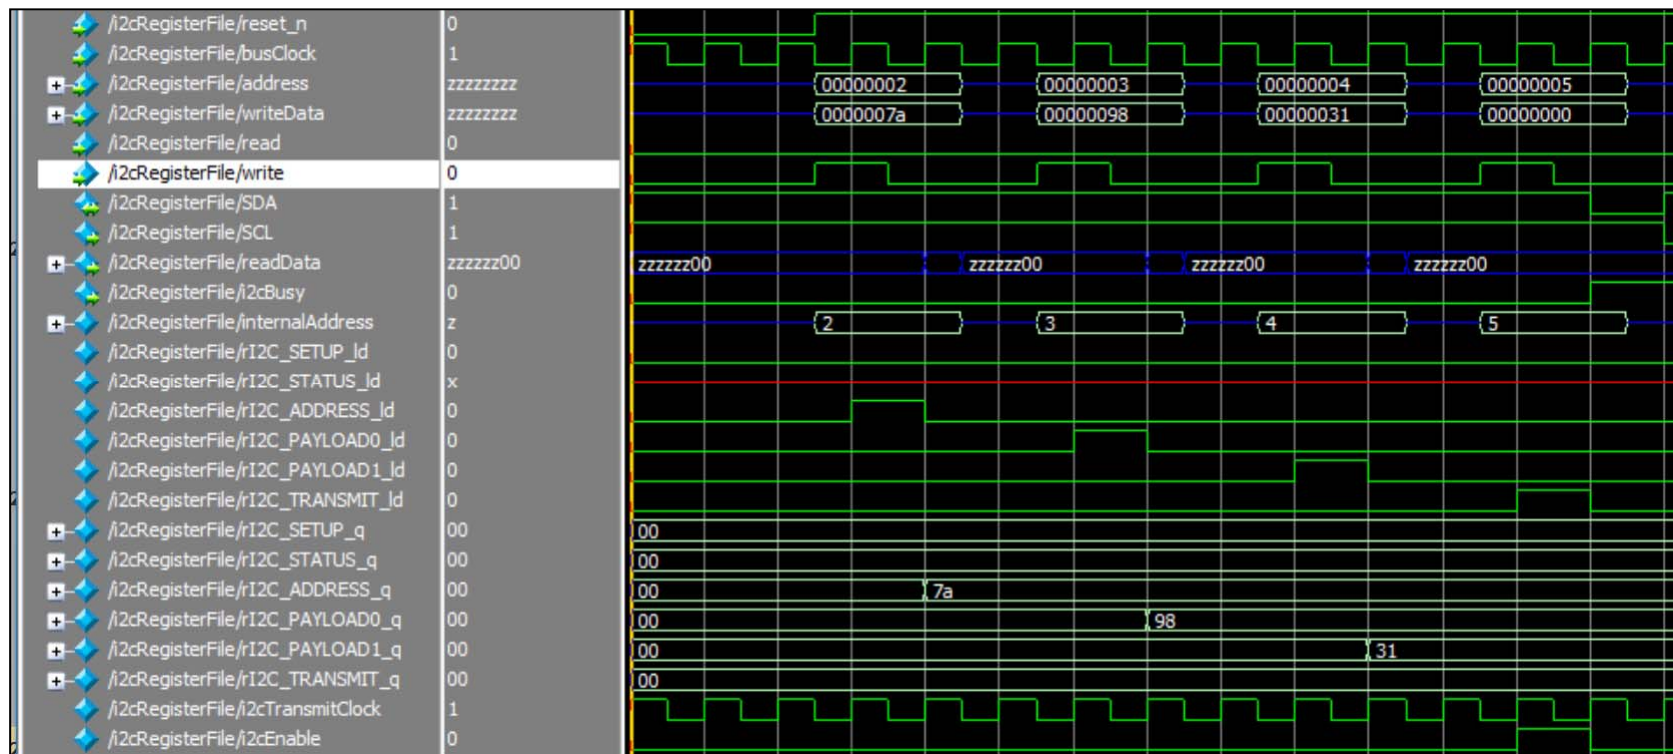

Figure 11 – I2C Controller ModelSim Data Load Verification
- Figure 11 depicts the ModelSim simulation as three data values are loaded into the address and payload registers.